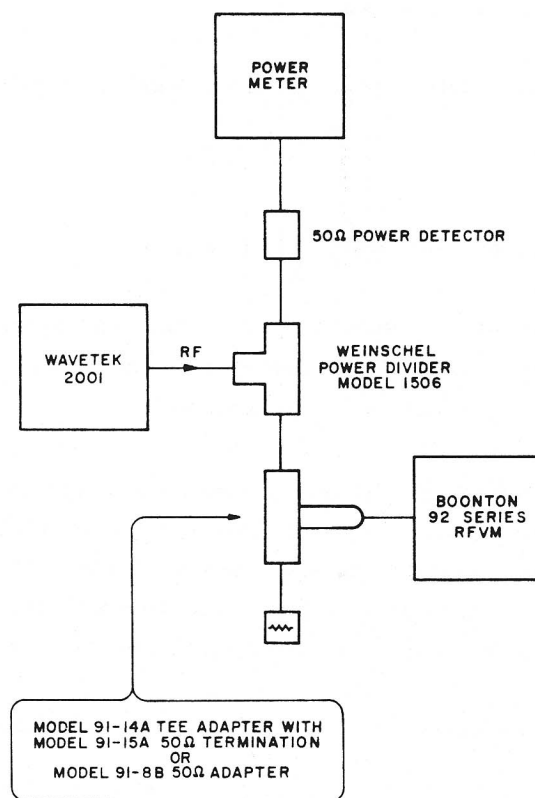

Figure 10. Frequency Response Test Setup
a. Connect the equipment as shown in Figure 10.